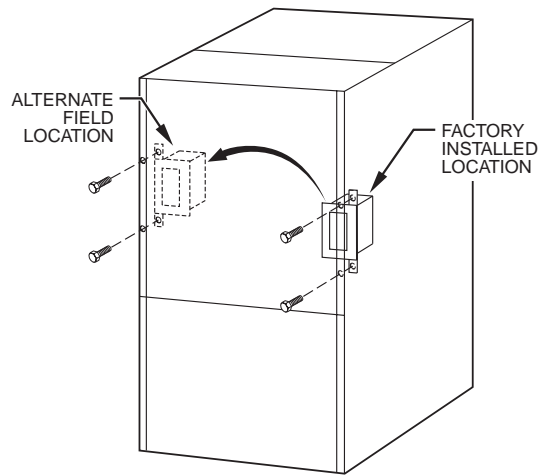

Fig. 33—Relocating J-Box
1. Remove 2 screws holding auxiliary J-box. (See Fig. 33.)